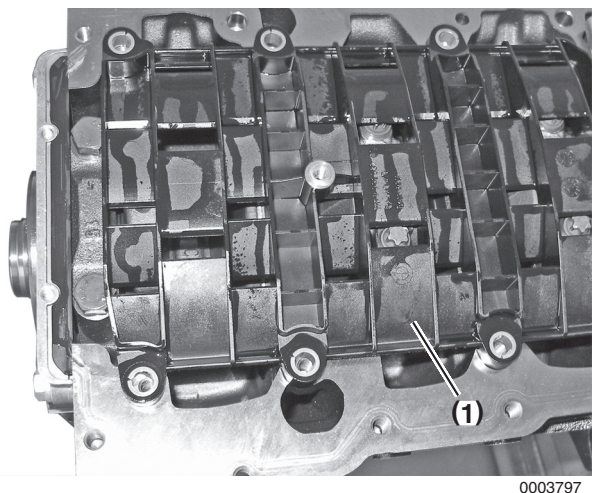

Figure 5-105
9. Remove oil deflector (**Figure 5-105, (1)**).